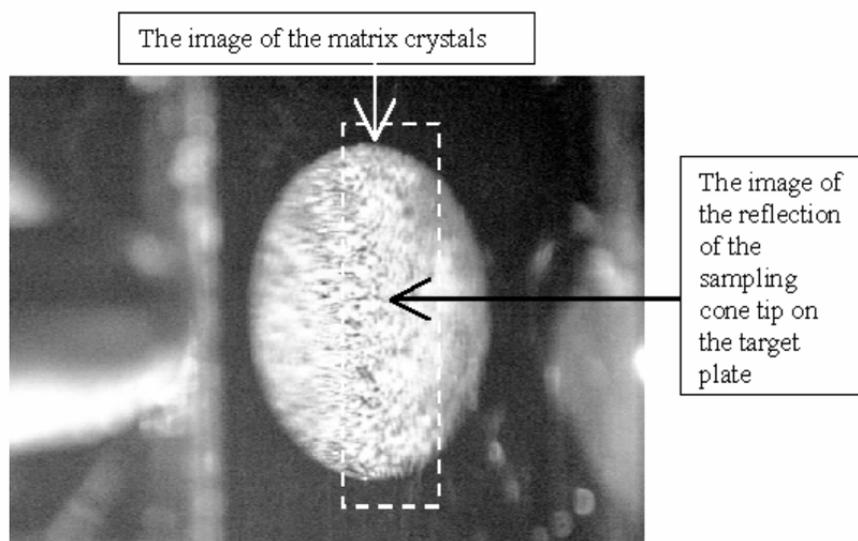
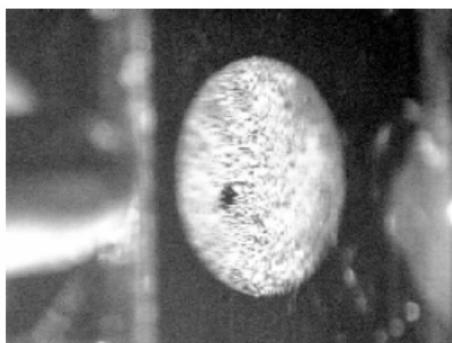
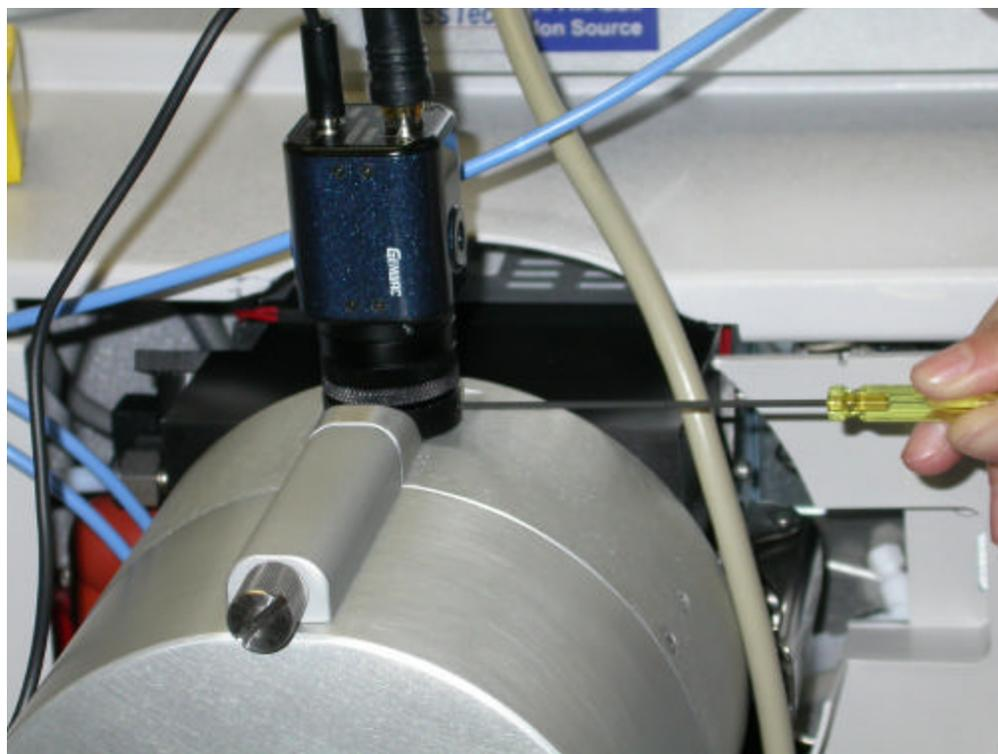

Fig. 7-3
Fig. 7-4
Fig. 7-6
By comparing Figures 7-4, 7-5, and 7-2 we can see that the laser focus is close to its ideal position, but slightly below and to the left. The deviation of the focal point shown in Figures 7-4 and 7-5 is acceptable, but the source sensitivity can possibly be improved by fine tuning.
Step 3. Move the target plate to a fresh spot, like in Step 1 (Fig. 7-3). If you follow the procedure, you can continue with the same spot that was used for the laser spot position determination (Figs. 7-4, 7-5). Switch ON the laser at maximum power (minimum attenuation). Using a hexagonal screwdriver (3/32"), turn the three screws (see Fig. 7-6).
Now you can set the best attenuation, appropriate for your matrix, shift the target to a new fresh spot and prove that the sensitivity is better. Or, the position of the laser focal spot can be adjusted by a rotation of tuning screws (Fig. 7-6) based on the quality of the MS signal by a trial-and-error method.